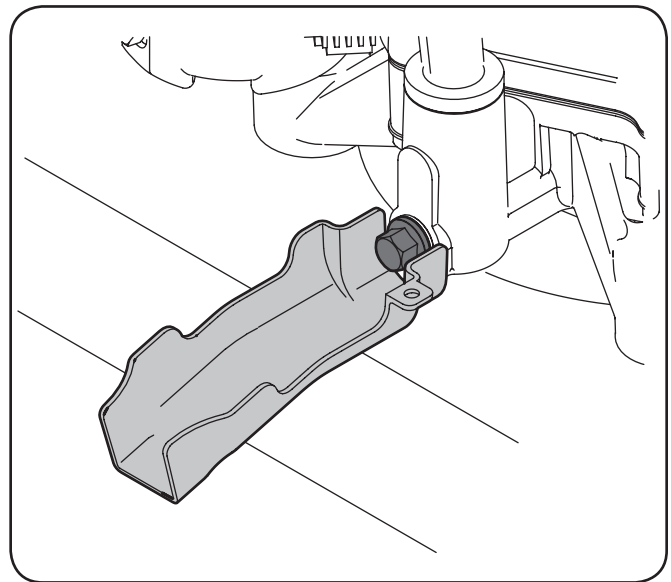

Figure 6-2
2. Snap the small end of oil drain sleeve onto the oil sump. See Figure 6-2.